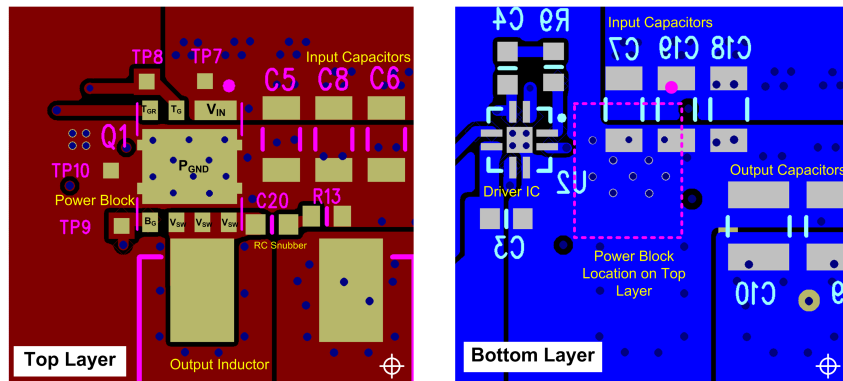

Figure 34. Recommended PCB Layout (Top Down View)
- The placement of the input capacitors relative to the power block's VIN and PGND pins should have the highest priority during the component placement routine. It is critical to minimize these node lengths. As such, ceramic input capacitors need to be placed as close as possible to the VIN and PGND pins (see Figure 34). The example in Figure 34 uses 6, 10-μF ceramic capacitors (TDK part # C3216X5R1C106KT or equivalent). Notice there are ceramic capacitors on both sides of the board with an appropriate amount of vias interconnecting both layers. In terms of priority of placement next to the power block, C5, C7, C19, and C8 should follow in order.
- The switching node of the output inductor should be placed relatively close to the power block VSW pins. Minimizing the node length between these two components will reduce the PCB conduction losses and actually reduce the switching noise level. In the event the switch node waveform exhibits ringing that reaches undesirable levels, the use of a boost resistor or RC snubber can be an effective way to reduce the peak ring level. The recommended boost resistor value will range between 1 Ω to 4.7 Ω depending on the output characteristics of driver IC used in conjunction with the power block. The RC snubber values can range from 0.5 Ω to 2.2 Ω for the R and 330 pF to 2200 pF for the C. Refer to Snubber Circuits: Theory, Design and Application (SLUP100) for more details on how to properly tune the RC snubber values. The RC snubber should be placed as close as possible to the Vsw node and PGND see Figure 34.(1)
- Use the smallest drill size allowed in your design. The example in Figure 34 uses vias with a 10-mil drill hole and a 16-mil capture pad.